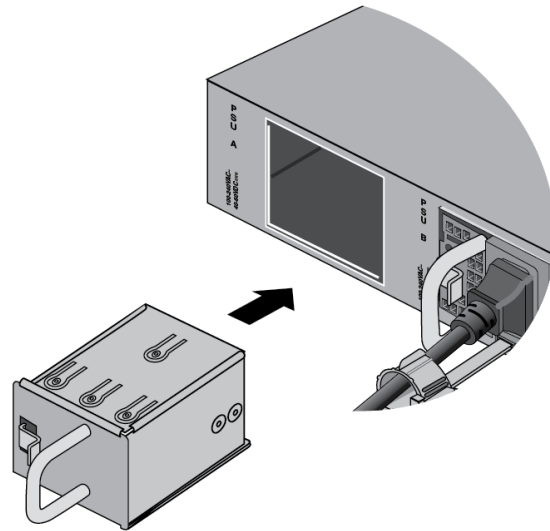

Figure 134. Installing the Blank Power Supply Cover
7. Orient the blank power supply cover as shown in Figure 134 on page 193 and slide it into the slot until it clicks into place.
9. Orient the blank power supply cover as shown in Figure 134 on page 193 and slide it into the slot until it clicks into place.